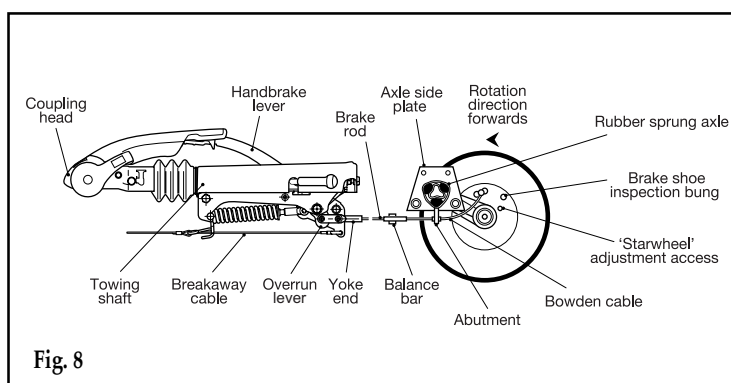
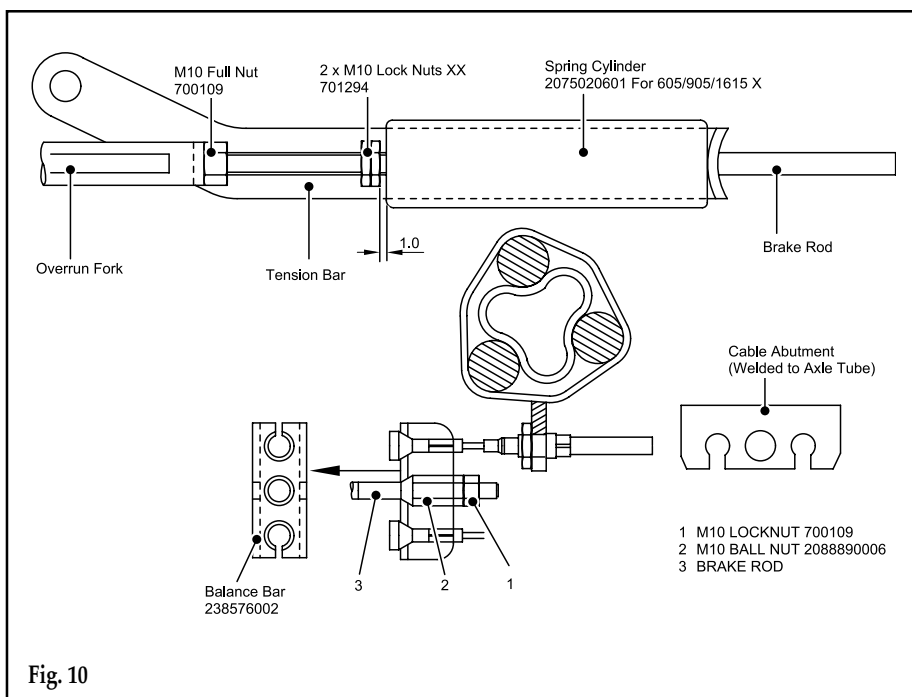

Fig. 8
Fig. 10
- i. Ensure the towing shaft with coupling heads is pulled fully forward (fig. 8).
- ii. Release the handbrake to the fully off position. If the handbrake will not go down the whole way because of the fairing or any other obstruction; then the fairing must be cut away and/or the obstruction removed to achieve this desired position. It will not be possible to set up the braking system properly when the handbrake is not in the fully off position (fig. 8).
- iv. Remove the inner plastic bung from the backplate to expose the 'starwheel' adjuster access (figs. 8 & 9).
- vii. Check the adjustment at the end of the brake cable where it is secured to the abutment (bracket) welded to the centre of the axle. When the inner cable is pulled out it should extend between 5 and 8 mm (fig. 8). (On tandem axles a double abutment is fitted to the front axle only).
- x. Ensure the balance bar (compensation) is being pulled evenly. This bar (double on tandem axles) should always be paralleled with the axle tube when pulled (figs. 8 & 10). Adjust M8 lock and ball nuts, if necessary, to achieve correct parallel position (fig. 10).
Over adjustment to the long ball nut (Fig 10), could induce movement of the inner brake cable, reducing the effective clearance of the brake shoes. If the over run lever will not make contact, it is possible the two lock nuts, forward of the spring cylinder, are incorrectly adjusted. Loosen the nuts and adjust the brake rod as above (Figs 8 & 10).
- xiii. Adjust the two locking nuts, forward of the spring cylinder (fig. 10), (on some chassis a single Nyloc nut is used) to give 1mm of clearance on the spring cylinder. This cylinder (the energy store for the handbrake operation) must be able to rotate only, not slide on the brake rod.
(See Fig. 10). If the overrun assembly is fitted with a gas strut handbrake then no spring cylinder is fitted - therefore ignore this paragraph).